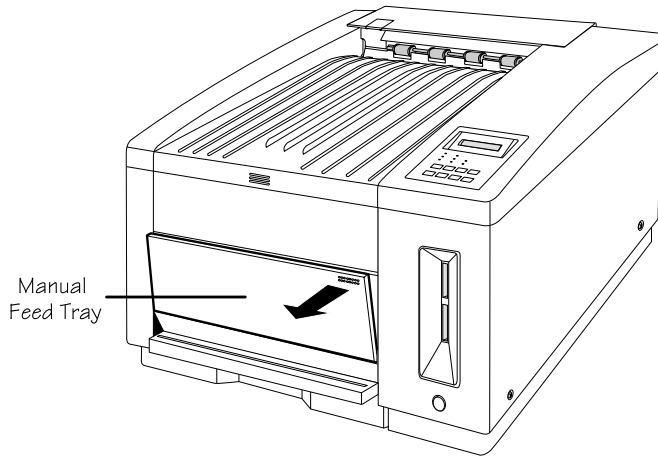

Fig. 9.6 *Open the Manual Feed Tray*
- a. Open the manual feed tray by pressing the top, right corner (fig. 9.6).